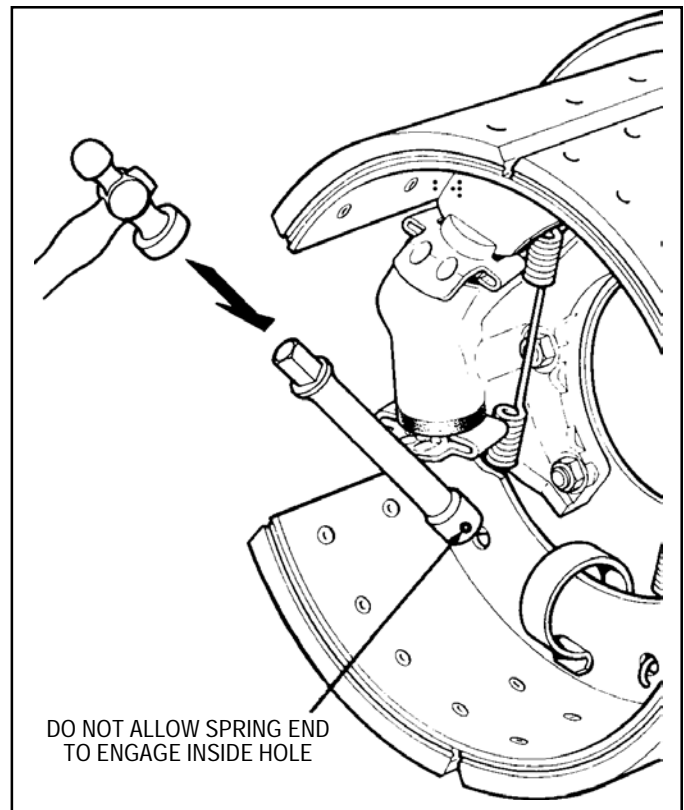

FIGURE 12 - SHOE RETURN SPRING REMOVAL
4. Place the recessed end of a 3/8 inch (9,53 mm) square drive socket extension over the end of the wheel cylinder end shoe return spring, *Figure 12*. Tap the end of the socket extension until the hook end of the spring passes through the brake shoe web.